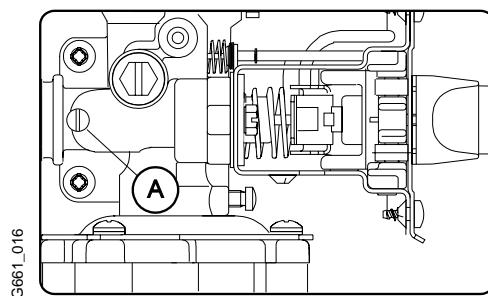

Fig. 5
- c) Loosen screw A and connect a pressure gauge to the test point. See fig. 5.
Turn off the gas service cock. Remove the pressure gauge and tighten screw A, see fig. 5.